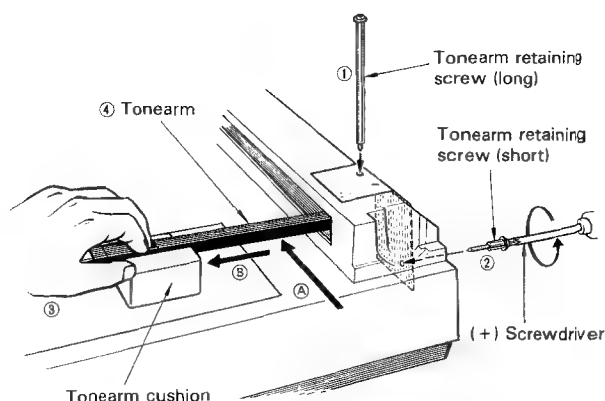

Fig. 16
2. Insert the tonearm cushion ③ under the tonearm in the direction of arrow (A) as shown in Fig. 16. Shift the tonearm cushion in the direction of arrow (B) until the cushion comes into slight contact with the tonearm. Then, shift the cushion about 15 mm (19/32") to the front.
3. Holding the tonearm ④ gently, install the shorter tonearm retaining screw ② (rear panel).